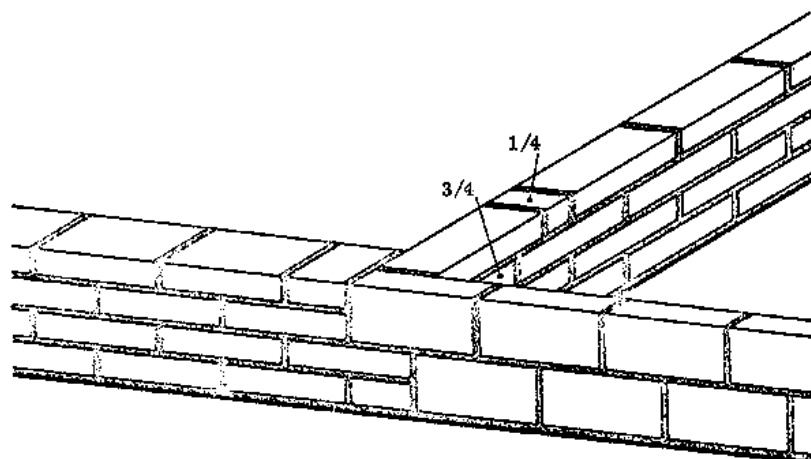

Fig. 2 SITUATION "A" - SPECIALLY MADE BLOCKS, OUTSIDE FLUSH.
- SITUATION "A", SPECIALLY MADE BLOCKS, OUTSIDE FLUSH: Bonding becomes simpler and more economical when these blocks are used. Fig. 2 shows that there is no material wasted since the 1/4 block which is left from cutting the 3/4 block will be used in the fourth flatwise course.